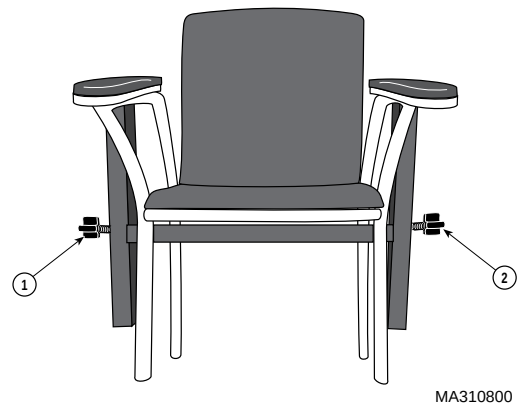

FIGURE 7
4. Take the fixed arm assembly (removed in Step 2) and install it into the remaining side of the "H"-Frame. Tighten knobs "1" and "2" (Fig. 7).